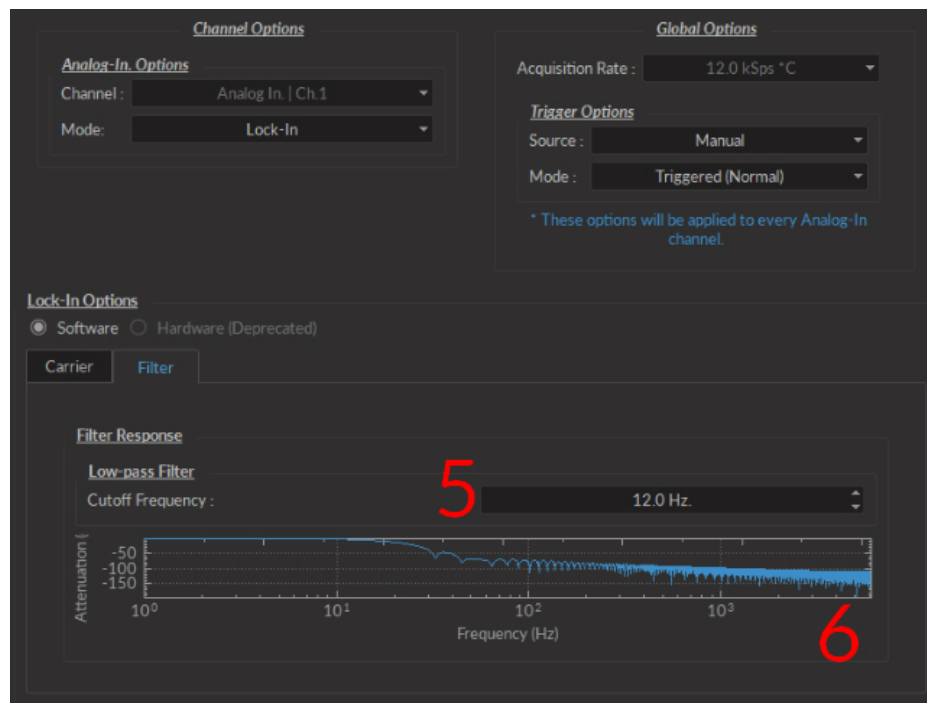

Figure 3.41: Channels configuration, Analog Input Lock-in Mode, Filter Tab
5. The **Cutoff Frequency** (Fig. 3.41) (the frequency at which a -3 dB attenuation will occur), found on the **Filter** tab is kept fixed at 12 Hz for optimal filtering results.